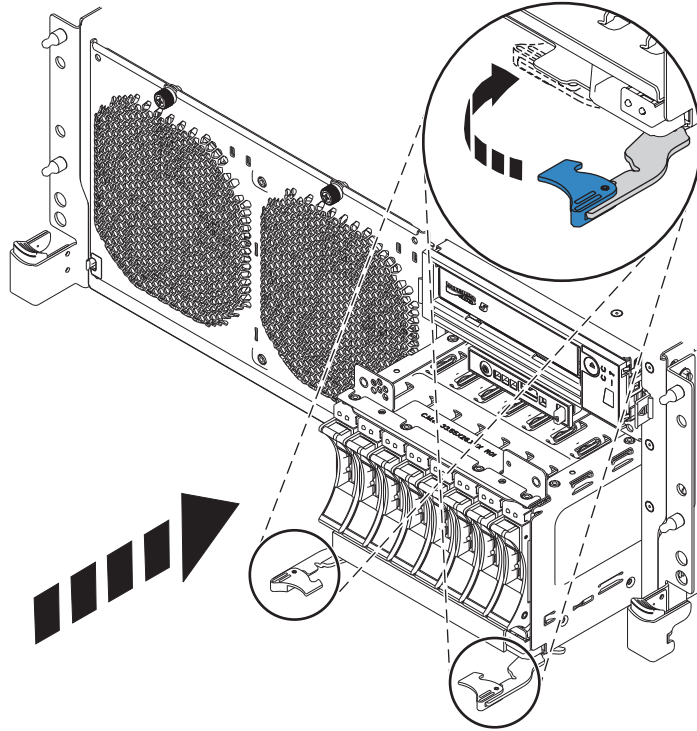

Figure 21. Replacing the disk drive cage
- a. With the disk drive latches extended, push the disk drive cage into the system. See Figure 21 on page 24.